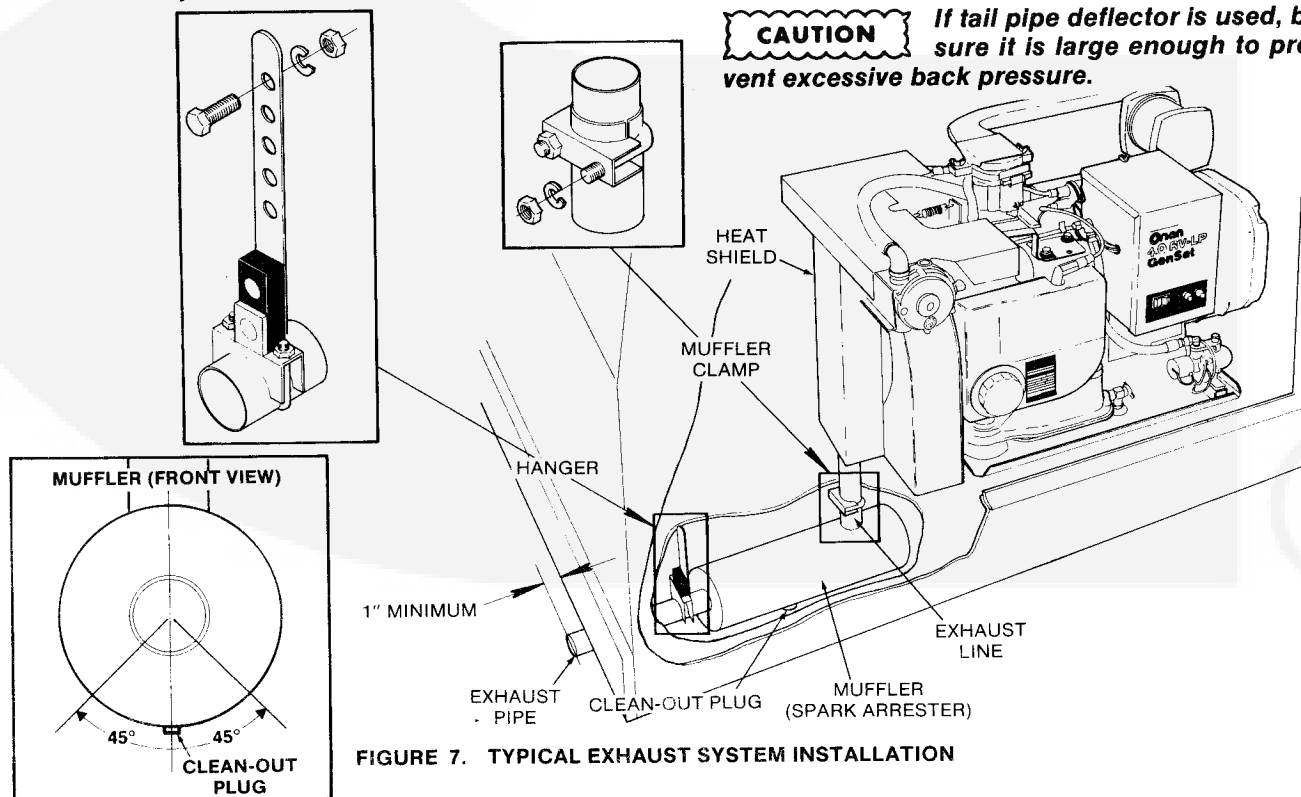

FIGURE 7. TYPICAL EXHAUST SYSTEM INSTALLATION
1. Where the exhaust system passes through the base or floor, leave adequate clearance as protection against exhaust pipe damage from vibration (Figure 7). The metal around the hole should be turned up or some type of collar used to prevent oil from draining onto hot exhaust parts.